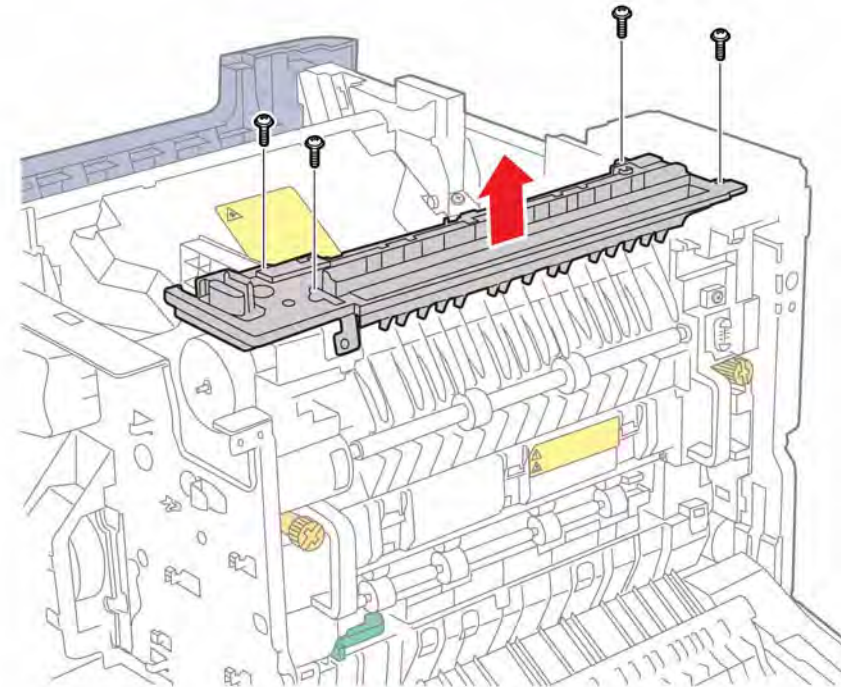

Figure 2 Remove the Exit Chute
10. Lift the chute and rest on the support bracket, Figure 2.